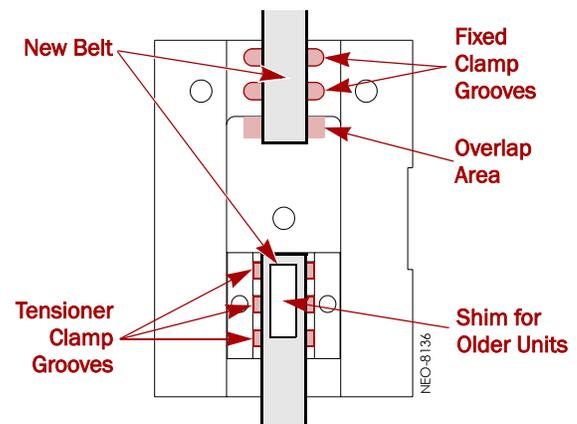

Figure 7. Attaching the New Belt to the Fixed Clamp
3. Place one end of the new belt into the **two Fixed clamp grooves** making sure the last tooth overlaps beyond the grooves (Figure 7).
- **Older brackets**—place the other end of the new belt into the three Tensioner clamp grooves, place the shim spacer on top of the belt (Figure 7) and, using the retained screws, reattach the clamp.